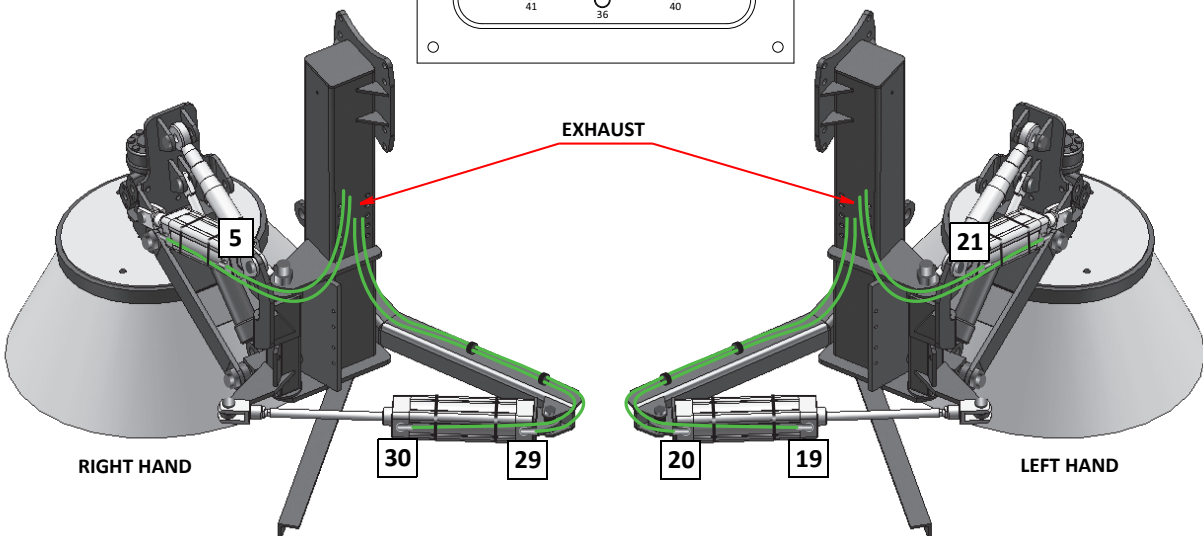

Figure 17 - Side brush pneumatic piping
2. The correct pipes are marked (19) and (20) for the left hand cylinder, (29) and (30) for the right hand cylinder. If no marking is visible, identify them at their bulkhead connectors, Refer to Figure 17.
3. Insert them into the cylinder connectors, Refer to Figure 17. Ensure pipes are inserted fully.
2. The correct pipes are marked (21) for the left hand cylinder, (5) for the right hand cylinder. If no marking is visible, identify them at their bulkhead connectors, Refer to Figure 17.
3. insert them into the cylinder connectors, Refer to Figure 17. Ensure pipes are inserted fully.